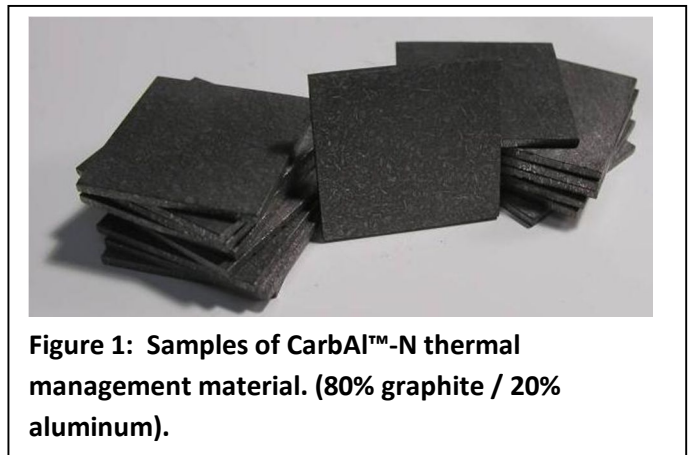

Figure 1: Samples of CarbAl™-N thermal management material. (80% graphite / 20% aluminum).
- a) **CarbAl™-N**, a composite of graphite and aluminum shown in Figure 1, which leverages the benefits of the thermal properties of graphite with the mechanical stability and robustness of aluminum, at a cost suitable for use in high volume consumer electronics. , CarbAl™-N is a porous graphitic matrix